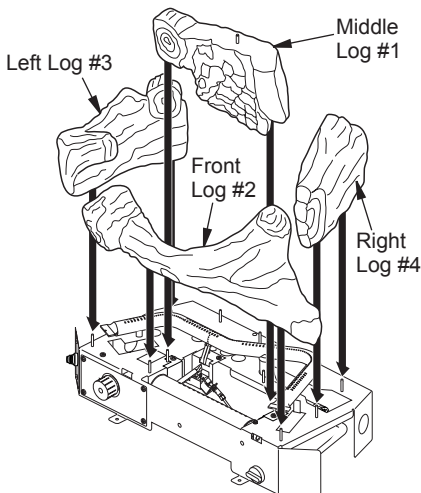

Figure 18 - Installing Middle Log #1, Front Log #2, Left Log #3 and Right Log #4
2. Place front log (#2) onto base. Position log onto two alignment screws to the front of base (see Figure 18).
3. Place left side log (#3) onto two log alignment screws on left side of base (see Figure 18).
4. Place right side log (#4) onto two log alignment screws on right side of base (see Figure 18).